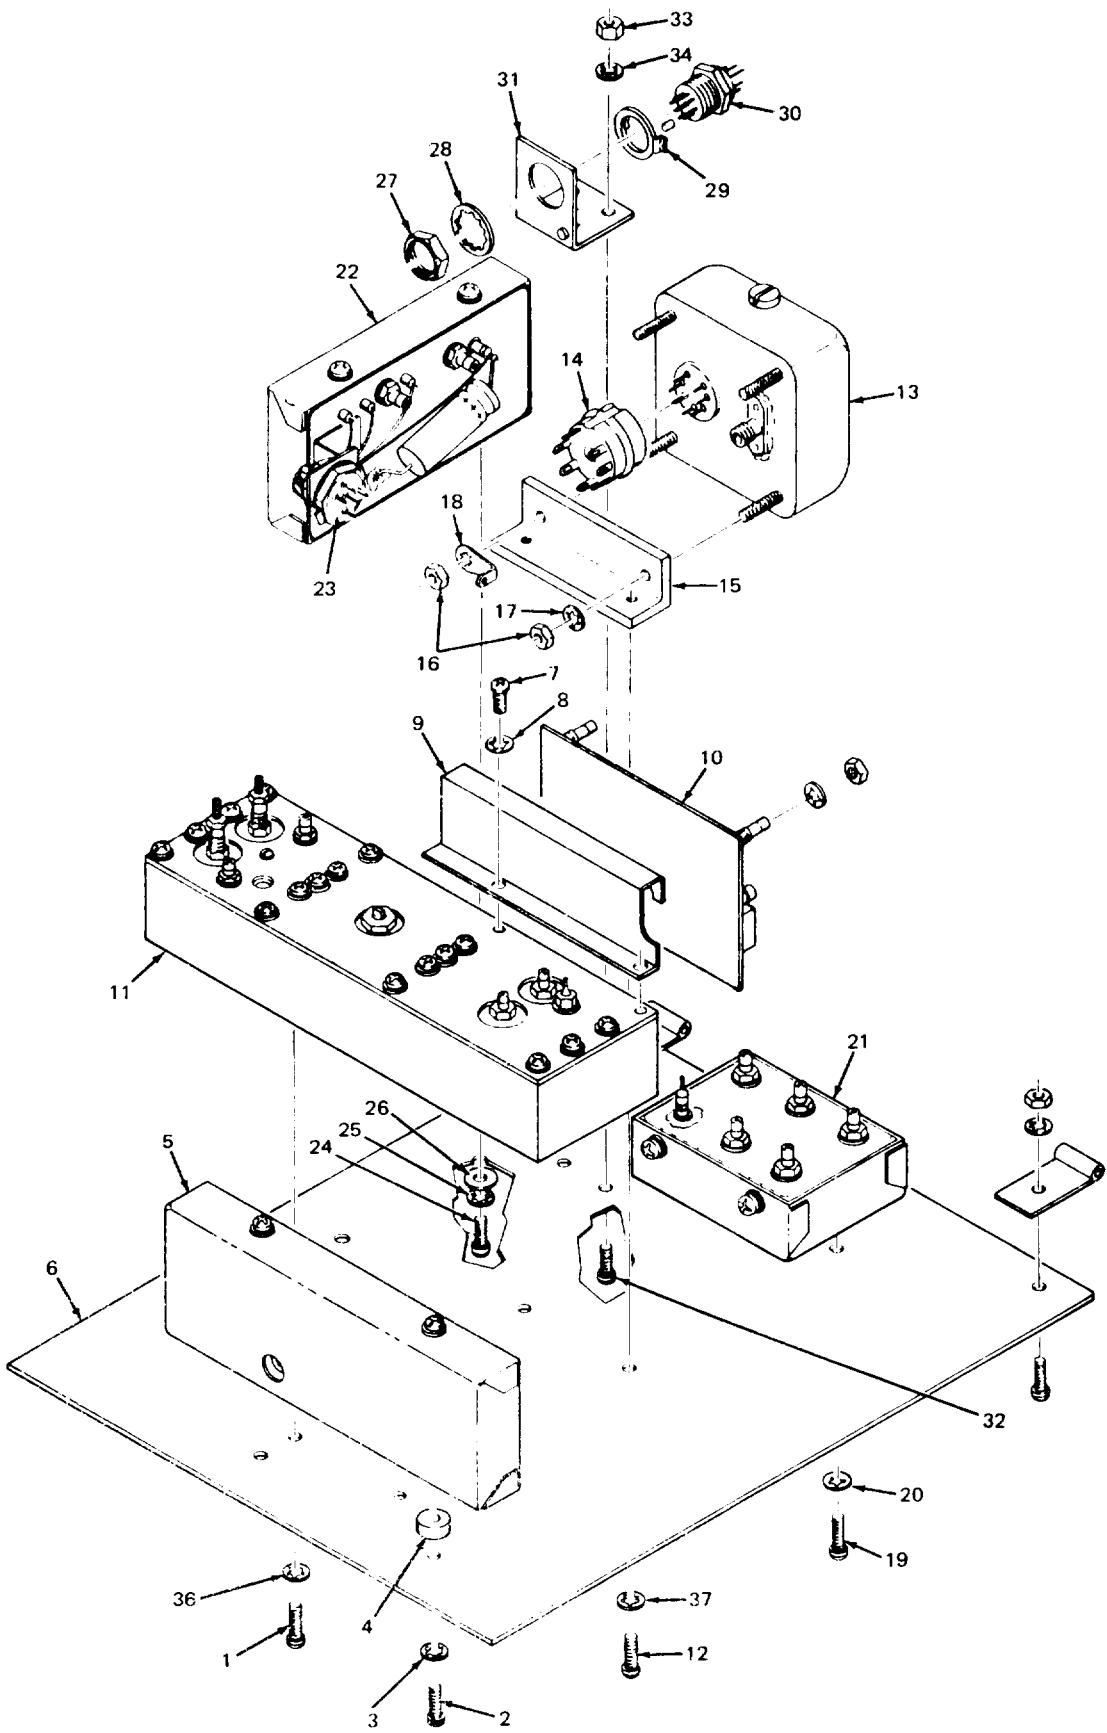

Figure 5-48. Upper floor disassembly/reassembly diagram.
- (1) Attach two 1/4" Phillips screws (24), two lockwashers (25), and two flat washers (26) which secure Clock Divider mechanical assembly (22) to Upper Floor (6) (figure 5-48).
- (2) Install tagged coax cables. Install mating connector to connector (23) (figure 5-48).
- (3) Attach two 1/4" Phillips screws (19) and two lockwashers (20) which secure Master Oscillator Output Distribution Amplifier (21) to Upper Floor (6) (figure 5-48).
- (4) Install tagged coax cables and solder wire to feed-through at Master Oscillator Output Distribution Amplifier (21) (figure 5-48).
- (5) install TCXO Master Oscillator (13) to mounting bracket (15) (figure 5-48).
- (6) Attach two hex nuts (16), one lockwasher (17), and one ground lug (18) which secure Master Oscillator mounting bracket (15) to TCXO Master Oscillator (13) (figure 5-48).
- (7) Attach two 5/16" Phillips screws which secure Master oscillator mounting bracket (15) to the Upper Floor (6) (figure 5-48).
- (8) Install tagged coax cable to TCXO Master Oscillator (13). Plug in tube socket (14) to TCXO Master Oscillator (13) (figure 5-48).
- (9) Install 1200-2200 MHz Oscillator mechanical assembly (11) to Upper Floor (6) (figure 5-48).
- (10) Attach four Phillips screws (1) and four lockwashers (36), which secure 1200-2200 MHz Oscillator mechanical assembly (11) to Upper Floor (6) (figure 5-48).
- (11) Attach tagged coax cables to 1200-2200 MHz Oscillator mechanical assembly (11) (figure 5-48).
- (12) Install AGC mounting bracket (9) with AGC Circuit Board (10) to 1200-2200 MHz oscillator mechanical assembly (11) (figure 5-48).
- (13) Attach two 5/16" Phillips screws (7) and two lockwashers (8) to AGC mounting bracket (9) (figure 5-48).
- (14) Attach all of the tagged coax cables necessary to the AGC Circuit Board (10) (figure 5-48).
- (15) Solder two tagged wires to feed-through on 1200-2200 MHz Oscillator assembly (11); one wire from AGC Circuit Board (10), the other wire from bracket mounted connector (30) (figure 5-48).
- (16) Install Heterodyne Amplifier  $\pm 2$  Prescaler mechanical assembly (5) to Upper Floor (6) (figure 5-48).
- (17) Attach two Phillips screws (2), two lockwashers (3), two spacers (4), which secure Heterodyne Amplifier  $\pm 2$  Prescaler mechanical assembly (5) to Upper Floor (6) (figure 5-48).
- (18) Install tagged coax cables and solder wires to feed-through capacitors at Heterodyne Amplifier  $\pm 2$  Prescaler mechanical assembly (5) (figure 5-48).